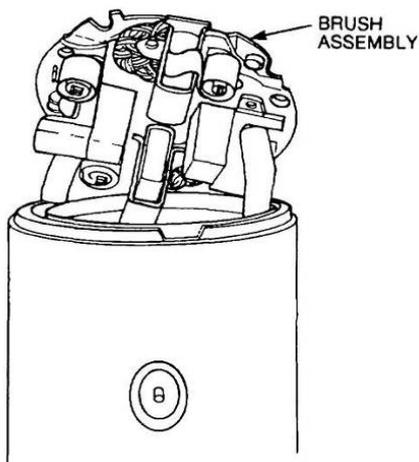

Figure 301 Removal of the Field Housing and Brush Assembly
- f. Remove the field housing and brush assembly from the starter motor housing (Figure 301) and discard the O ring. Disengage the brushes from the brush holder.